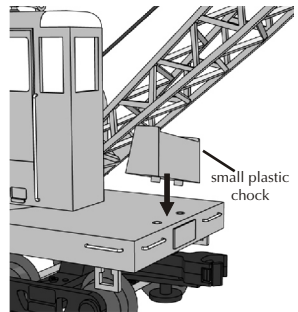

Figure 2. Place the Boom Chock on the crane base
1. Place the small plastic chock provided into the holes on the crane base, under the boom. (See figure 2)